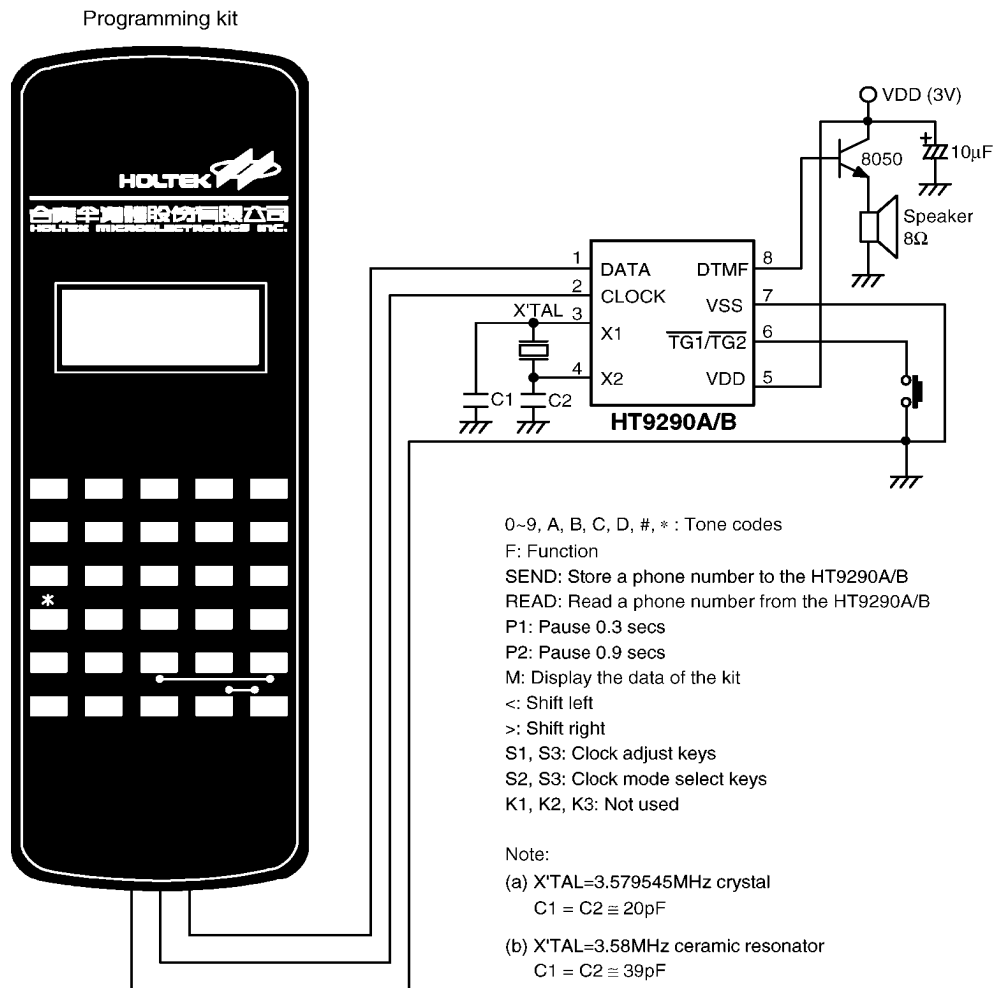

Figure 1. Programming kit wiring diagram
The HT9290A/B is a one-key tone dialer. A station number with 22 digits at maximum can be programmed. The HT9290A is used for long distance calls while the HT9290B is used for local calls. The phone number can be easily programmed through HOLTEK's programming kit (refer to Figure 1).
**Using the programming kit (Figure 1.)**